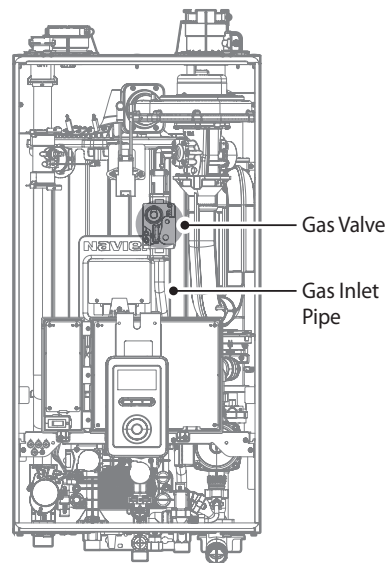

Figure 2. NFC-H Series Internal Components
4. With the internal components exposed, locate the gas inlet pipe and the gas valve, as shown in Figure 2.